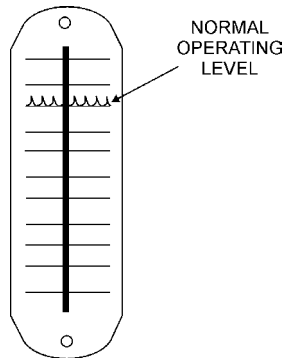

Figure 36. Hydraulic Oil Sight Glass
1. Check the hydraulic oil level in the hydraulic oil tank, by reading the hydraulic oil sight glass (Figure 36) mounted on the hydraulic oil tank.